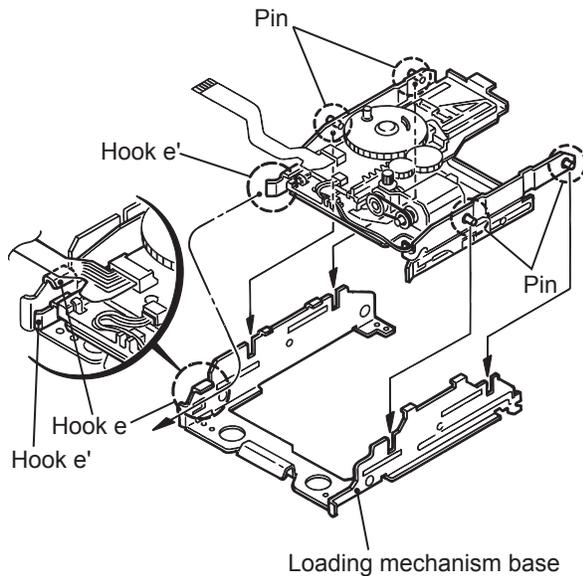

Fig.24
- (8) Reattach the UD base while engaging the four pins on both sides of the UD base to the notches of the loading mechanism base and placing the edge (marked e') of the cartridge holder assembly under the hook e of the loading mechanism base. (Fig.24)